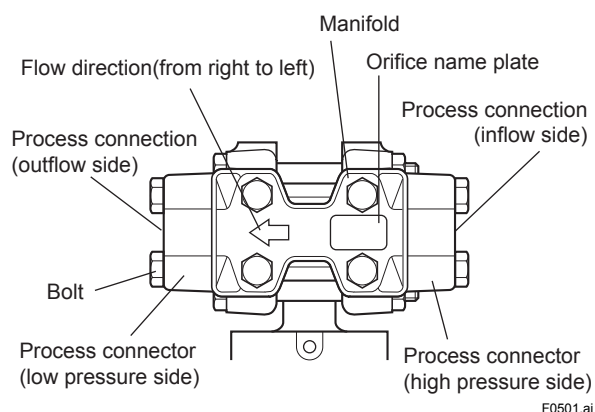

Figure 5.1 Manifold and Flow Direction Indication
(1) Confirming the Process Fluid Flow Direction (Figure 5.1)